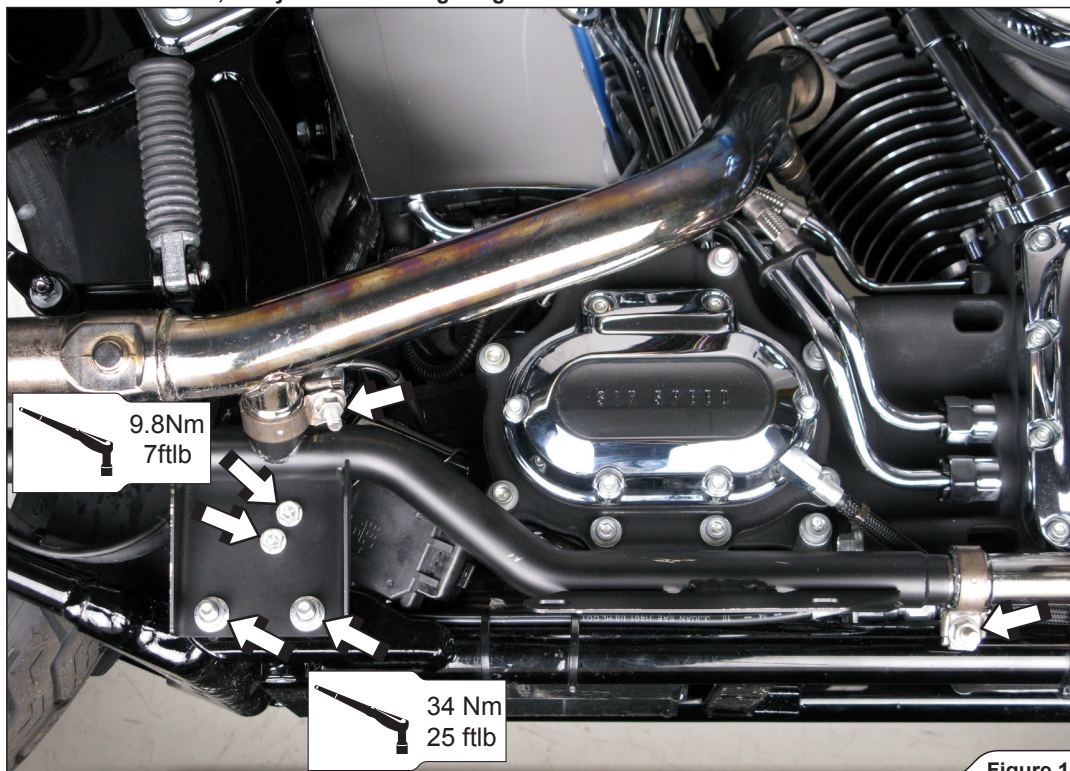

Figure 10
3. Mount the Akrapovič mufflers' bracket onto the frame, using stock screws and hand tighten the headers-muffler bracket connection clamps (Figure 10).